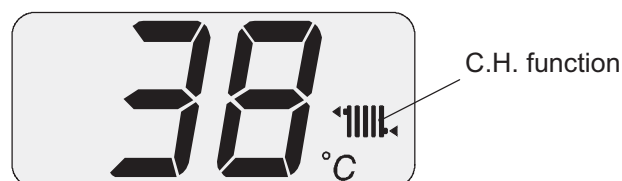

Figure 8.3
- 6 Set the boiler in C.H. function as illustrated in Figure 8.3.